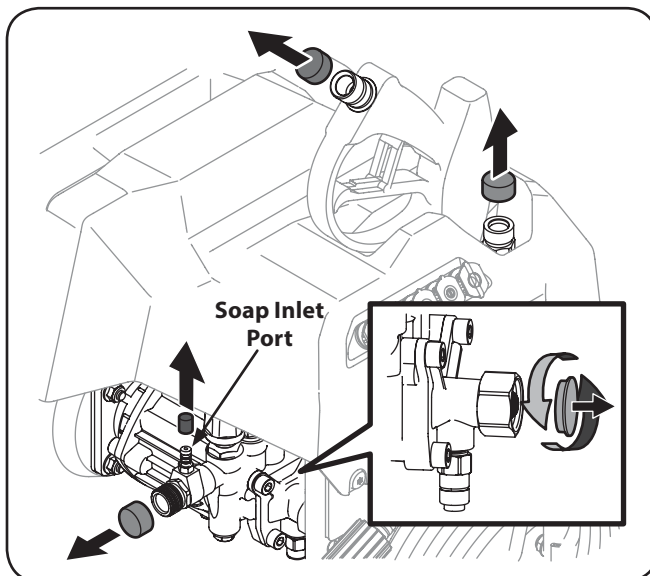

Figure 3-1
1. Remove the five plastic caps shown in Figure 3-1.
Note: The first four caps pull off as shown. The plastic cap in the inset of Figure 3-1, rotates counter clockwise to remove. If choosing not to install the soap inlet tube at this time, the plastic cap on the soap inlet port of the pressure washer pump may remain in place.
1. Remove the plastic cap on the soap inlet port of the pressure washer pump, if not already done so. Refer to Figure 3-1.
3. Push the soap inlet tube onto the inlet port on pressure washer pump. Refer to Figure 3-1 for location of where the inlet tube attaches.